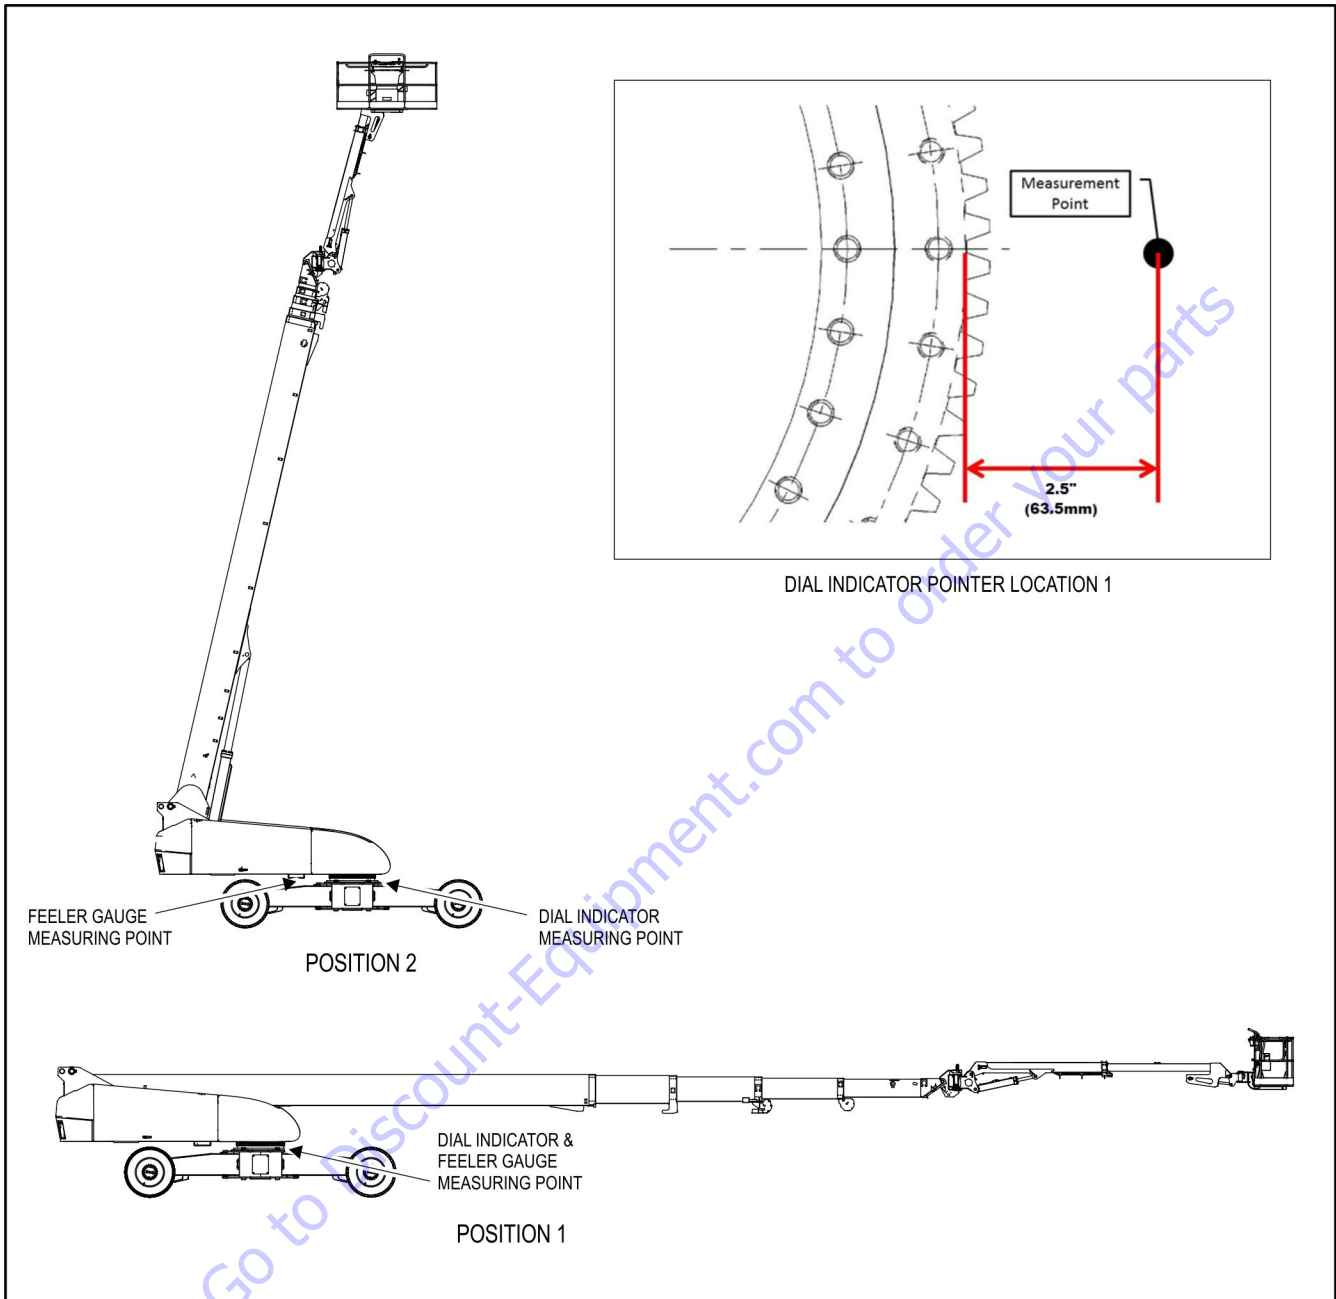

Figure 3-39. Swing Bearing Wear Tolerance
- a. Fully elevate the main boom. See Position 2, Figure 3-39.
- b. At the position indicated on Figure 3-39., try to insert a 0.0015" feeler gauge between the bolt and hardened washer at the arrow indicated position.
- d. At the position indicated on Position 1, Figure 3-39., try and insert the 0.0015" feeler gauge between the bolt head and hardened washer at the arrow indicated position.
See Figure 3-39., Swing Bearing Wear Tolerance.
1. Position the machine as follows and as seen in Figure 3-39., Swing Bearing Wear Tolerance, Position 1:
- c. The indicator point needs positioned to measure the turntable base plate 2.5 inches from the root of the gear tooth. Refer to Figure 3-39., Swing Bearing Wear Tolerance.
7. Return the machine to Figure 3-39., Swing Bearing Wear Tolerance, Position 1. The dial indicator should to return to zero. If the dial indicator does not return to zero, take corrective action and repeat the test.